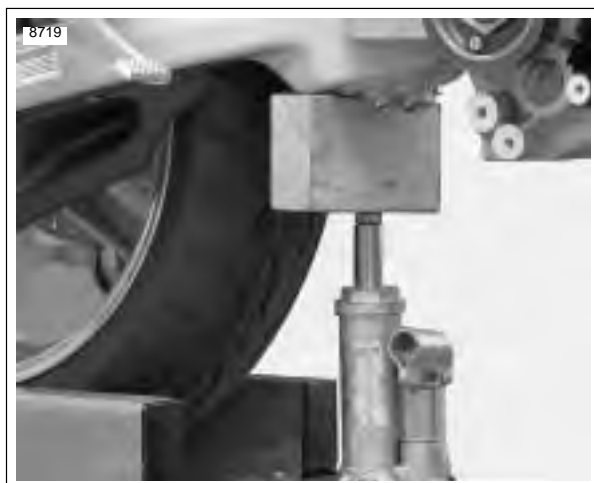

Figure 3-23. Supporting the Swingarm (Typical)
35. See Figure 3-23. Support swingarm/oil tank with wooden blocks, jack, etc.